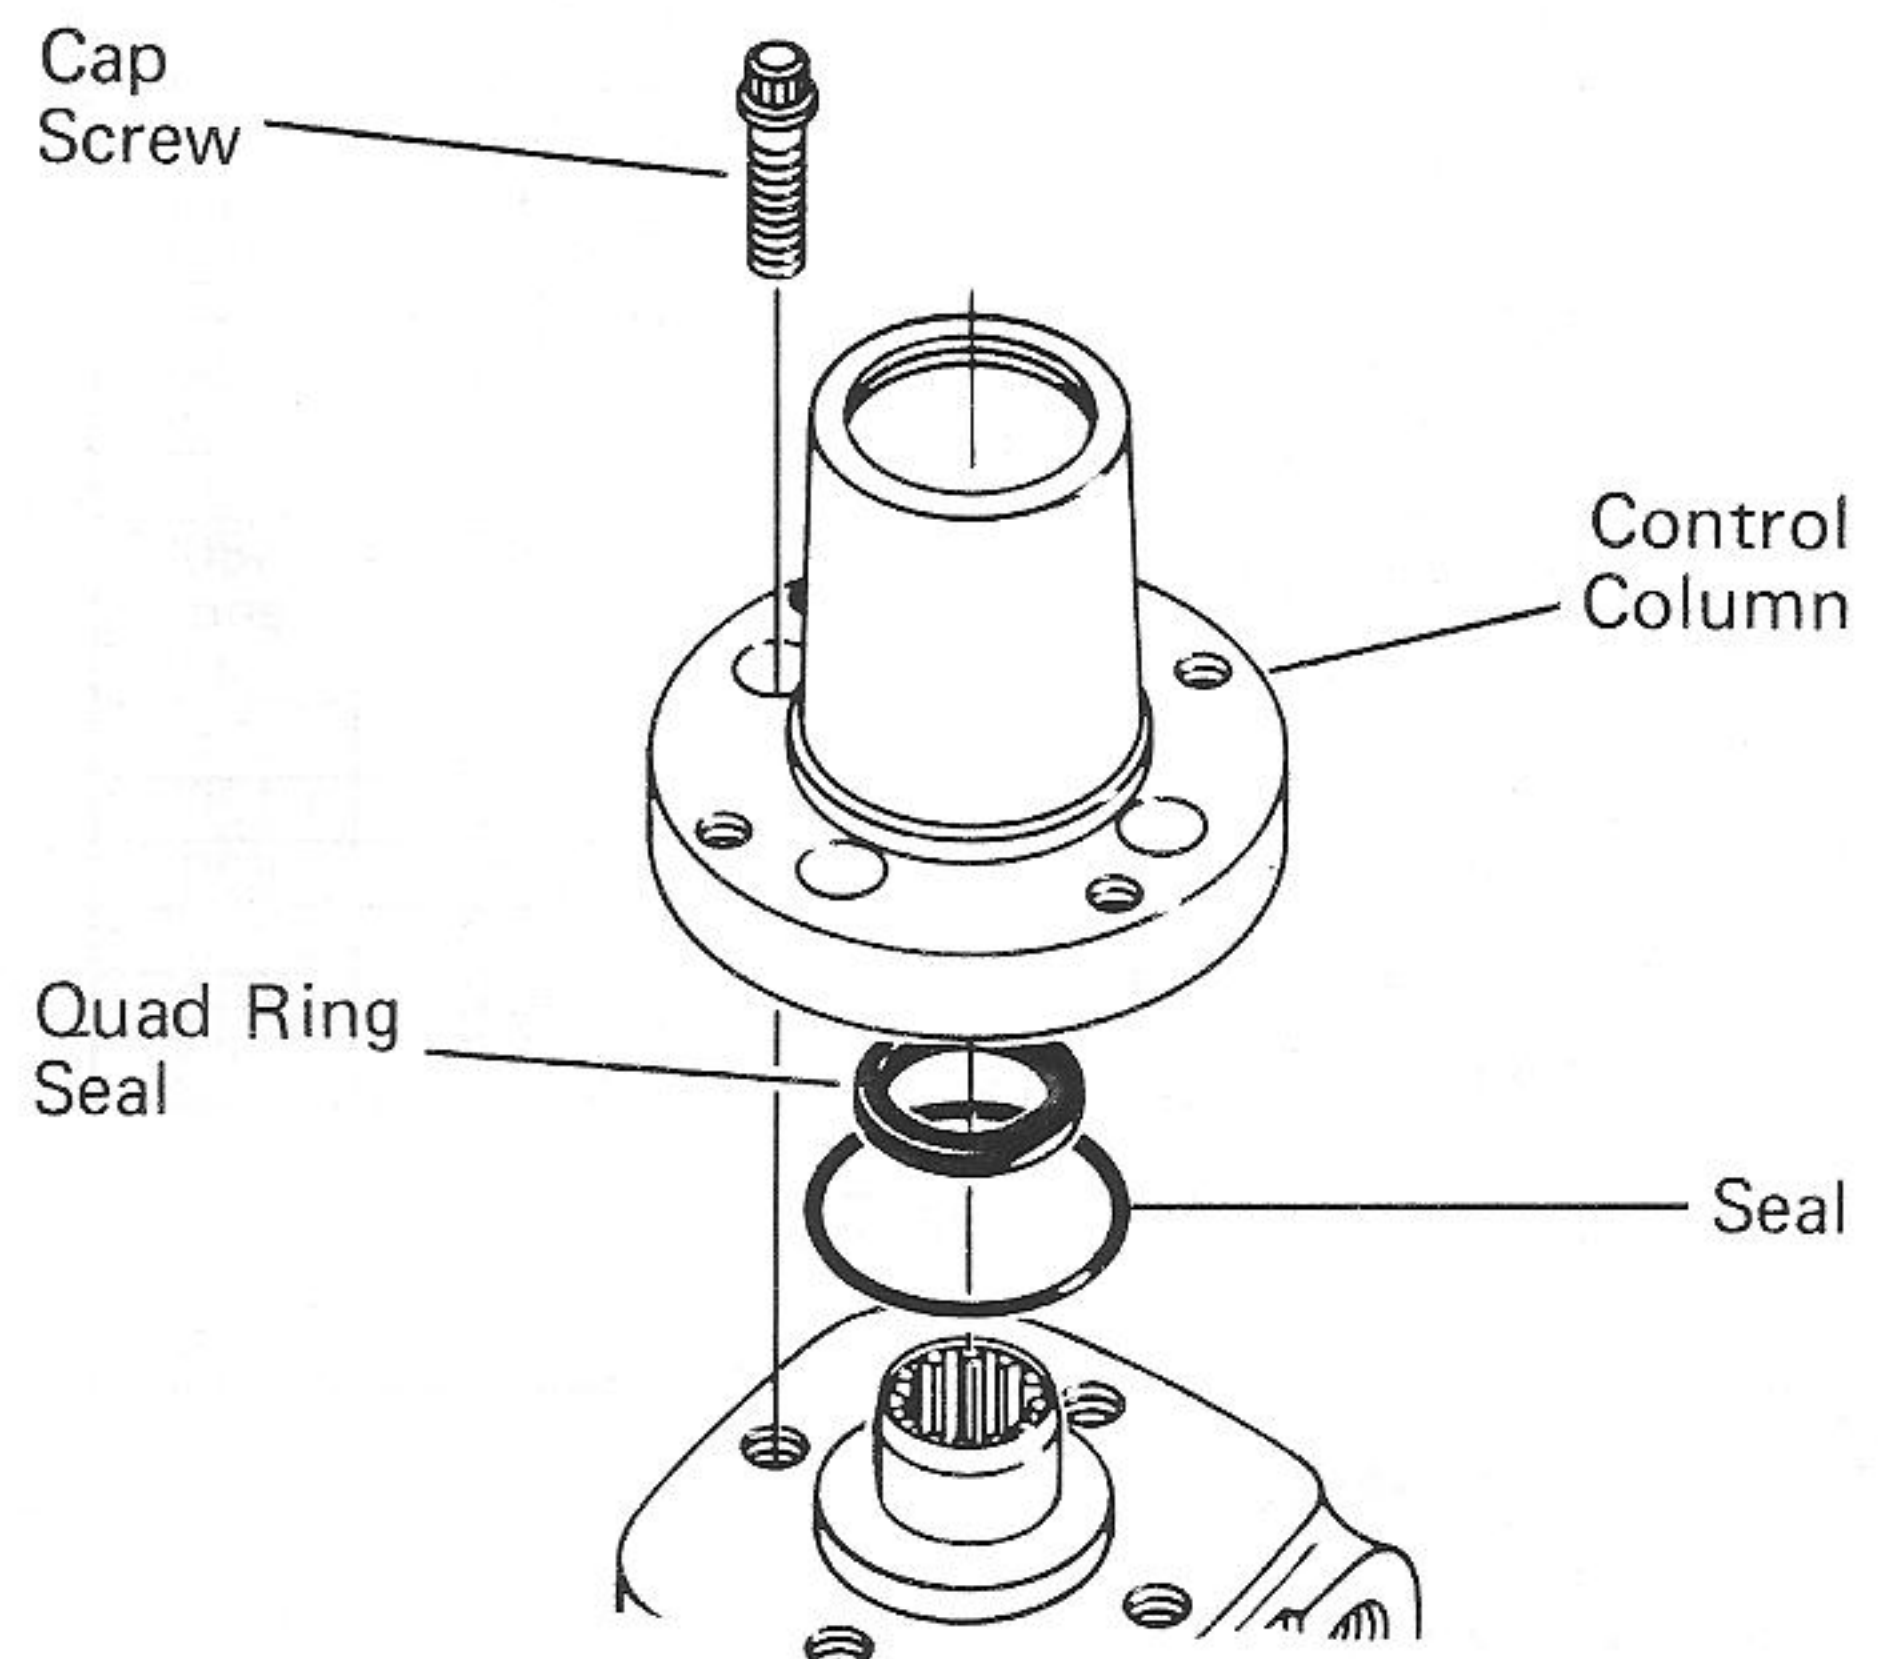

Figure 31
- 2 Install dry quad ring seal, and lubricated 1-15/16" diameter seal in column, see Fig. 31.